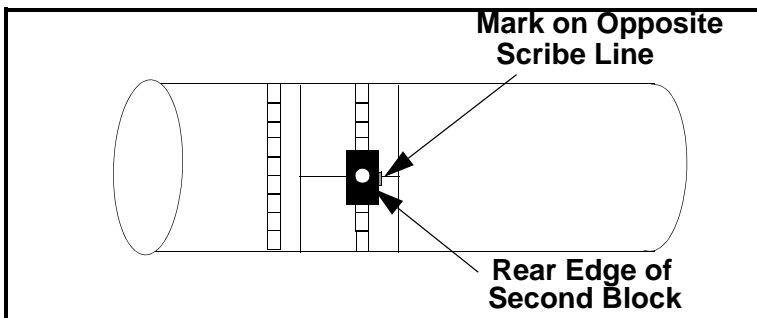

Figure 3-20: Lining up the Rear Edge of the Bracket with the 180° Scribe Line
4. Line up the *other* edge of the CFG-PI holder bracket with the scribe line and tighten the chain or strap, as shown in Figure 3-20 below.